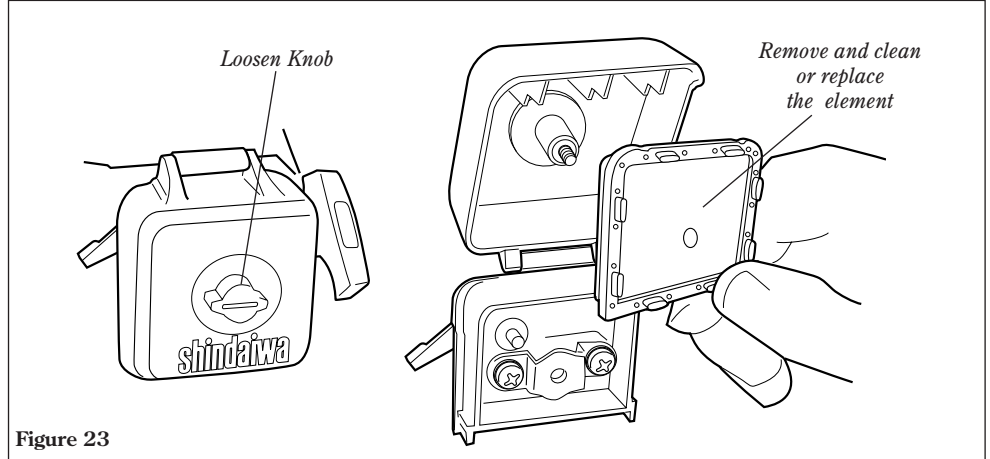

Figure 23
- Remove the air cleaner element. See Figure 23. Clean or replace as necessary. To clean element: Wash it thoroughly in soap and water. Let it dry before reinstalling the element.
- Use a hooked wire to extract the fuel filter from inside the fuel tank. See Figure 23.